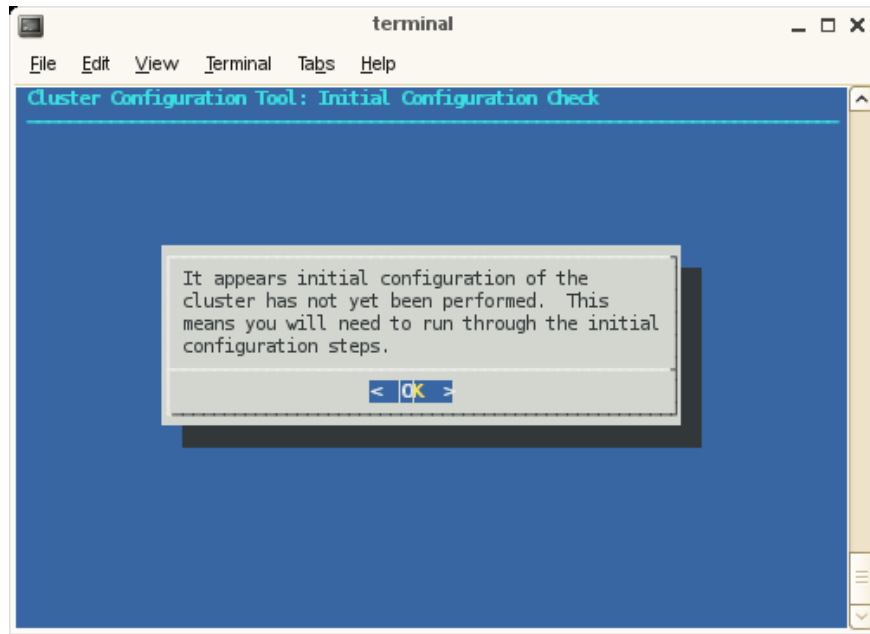

Figure 2-9 Cluster Configuration Tool: Initial Configuration Check Screen
2. The **Cluster Configuration Tool: Initial Configuration Check** screen appears, as shown in Figure 2-9 on page 48. This tool provides instructions on the steps you need to take to configure your cluster. Click **OK** to continue.